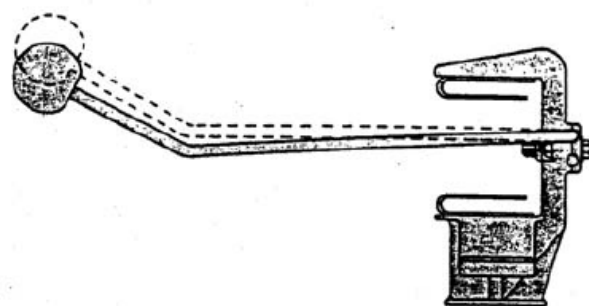

Figure 20: Improper Arcing Horn Adjustment
- c. Loosen the adjustable arm and clevis bolts as shown in Figure 20.